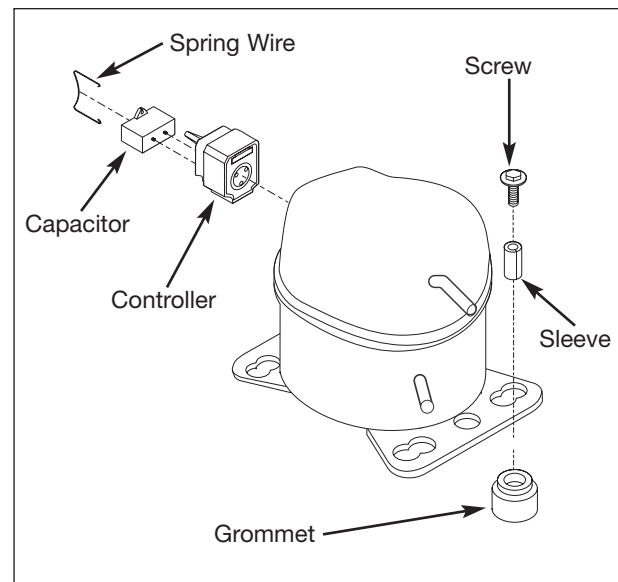

Figure 5-28. Compressor Components
6. Using a 7/16" socket, remove the (4) bolts, one in each corner, holding the compressor to the base. (See Figure 5-28)